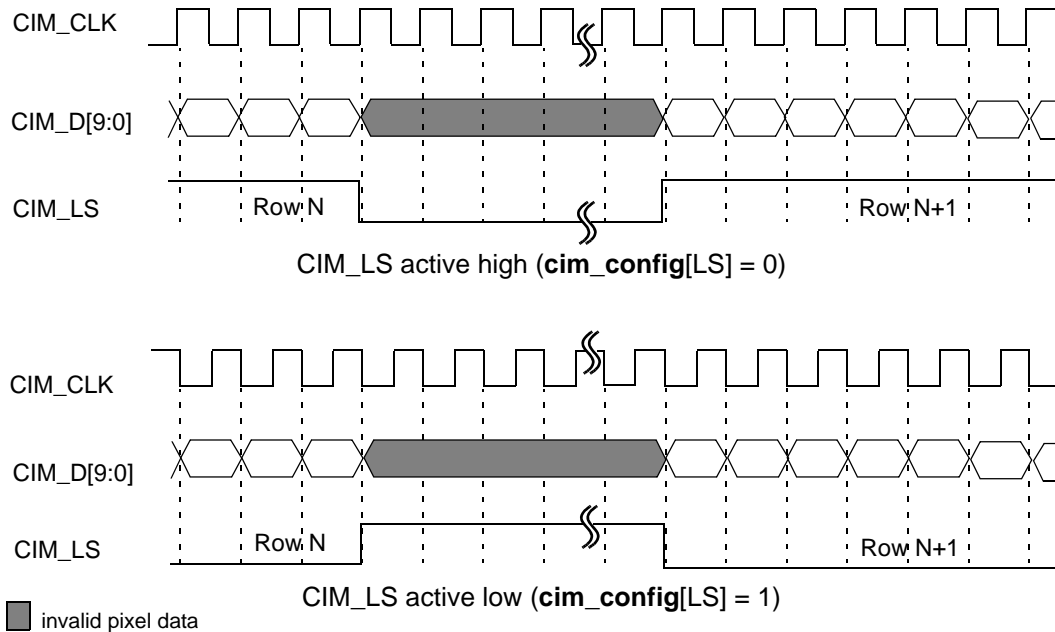

Figure 9-4. CIM_LS Level Mode (cim_config[PUL] = 0**)**
- In *level* mode (**cim_config[PUL] = 0**), CIM_LS asserts (active high or low) at the start of each row of valid pixel data and negates after the last pixel of that row is read, as shown in Figure 9-4. State transitions in CIM_LS must be synchronized to the active edge of CIM_CLK. Level mode corresponds to free-running mode for CIM_CLK.